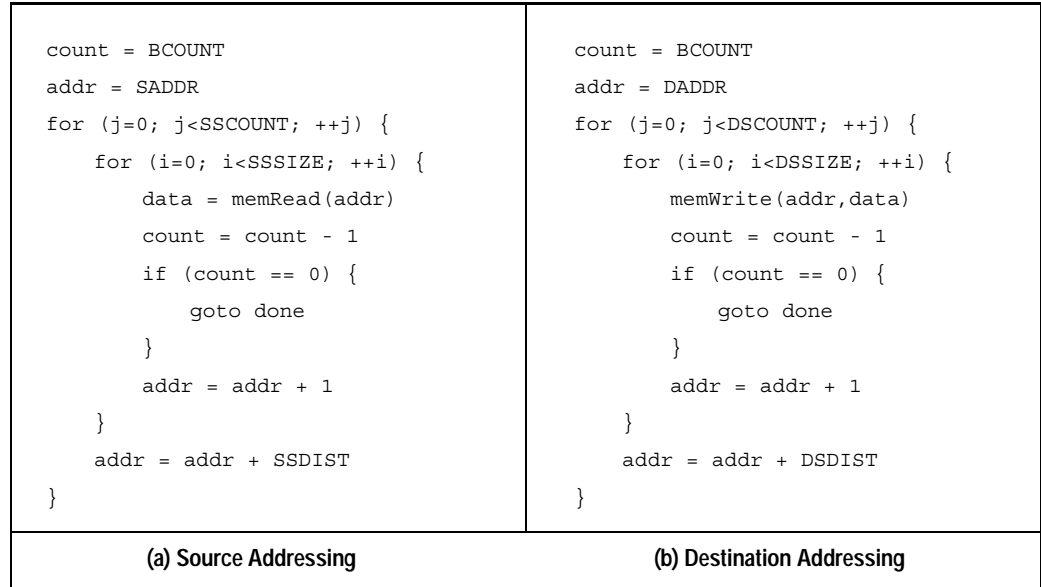

Figure 15.4 DMA Channel Addressing¹
The general addressing operations implemented by a DMA channel are shown in Figure 15.4 and the associated parameters are described in Table 15.1. Although both the source and destination addressing algorithms are the same, different parameter initialization may result in different behavior.
- Since strides are not used in this example, SSSIZE and DSSIZE are set to zero. A value of zero indicates an infinite stride. This results in the inner loop executing in Figure 15.4 until the byte count is exhausted.